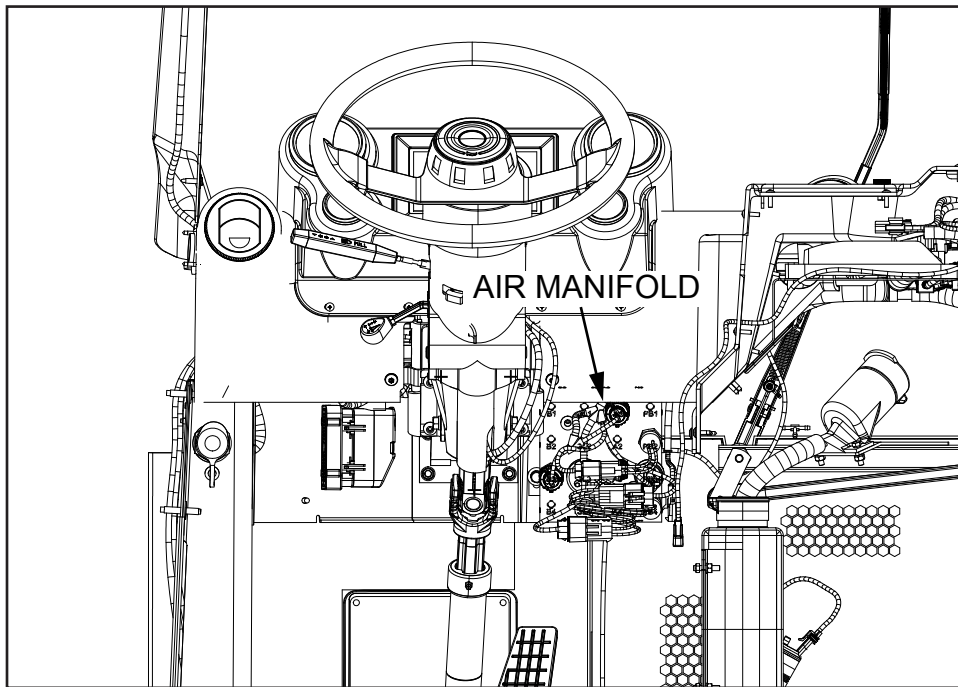

Figure 2, ACX Left Side Drive
3. Locate the air manifold (see Figure 2).